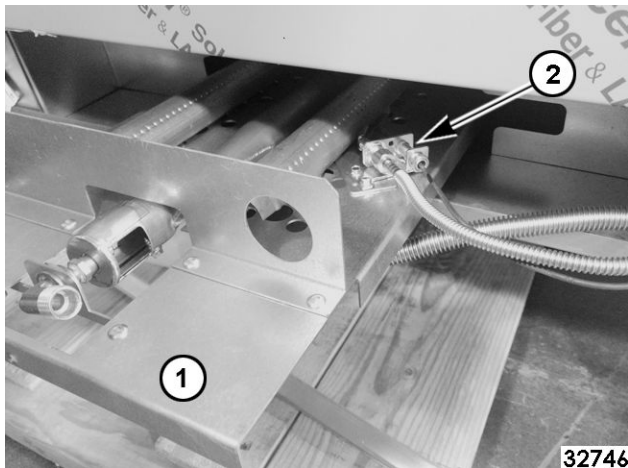

Fig. 47
6. Pull burner drawer box (1, Fig. 47) out from the oven.
7. Remove pilot assembly (2, Fig. 47) from oven deflector.